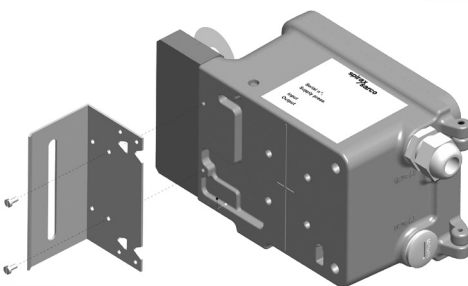

Fig. 11
- 5.2.5** Locate the protection plate onto the back of the SP400 positioner housing and fix in place (Figures 11 and 12).